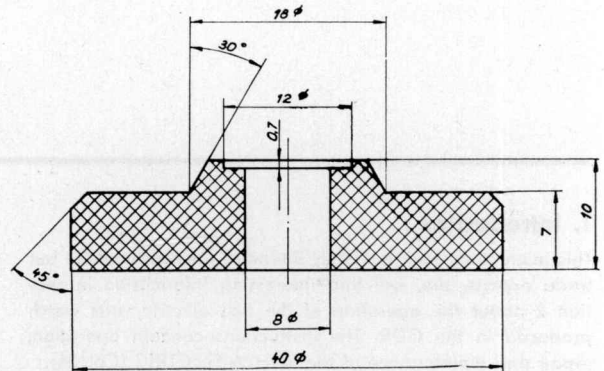

Fig. 4
- (4.1.4) Receiving ring for balance, according to Fig. 4